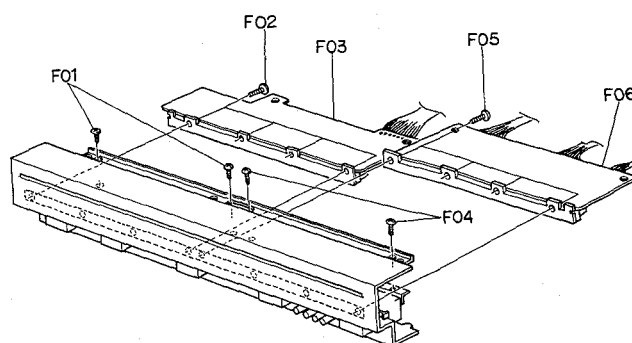

Fig. 3.7
Refer to Fig. 3.7. Remove Front Panel Ass'y referring to items 3.1 – 3.3.